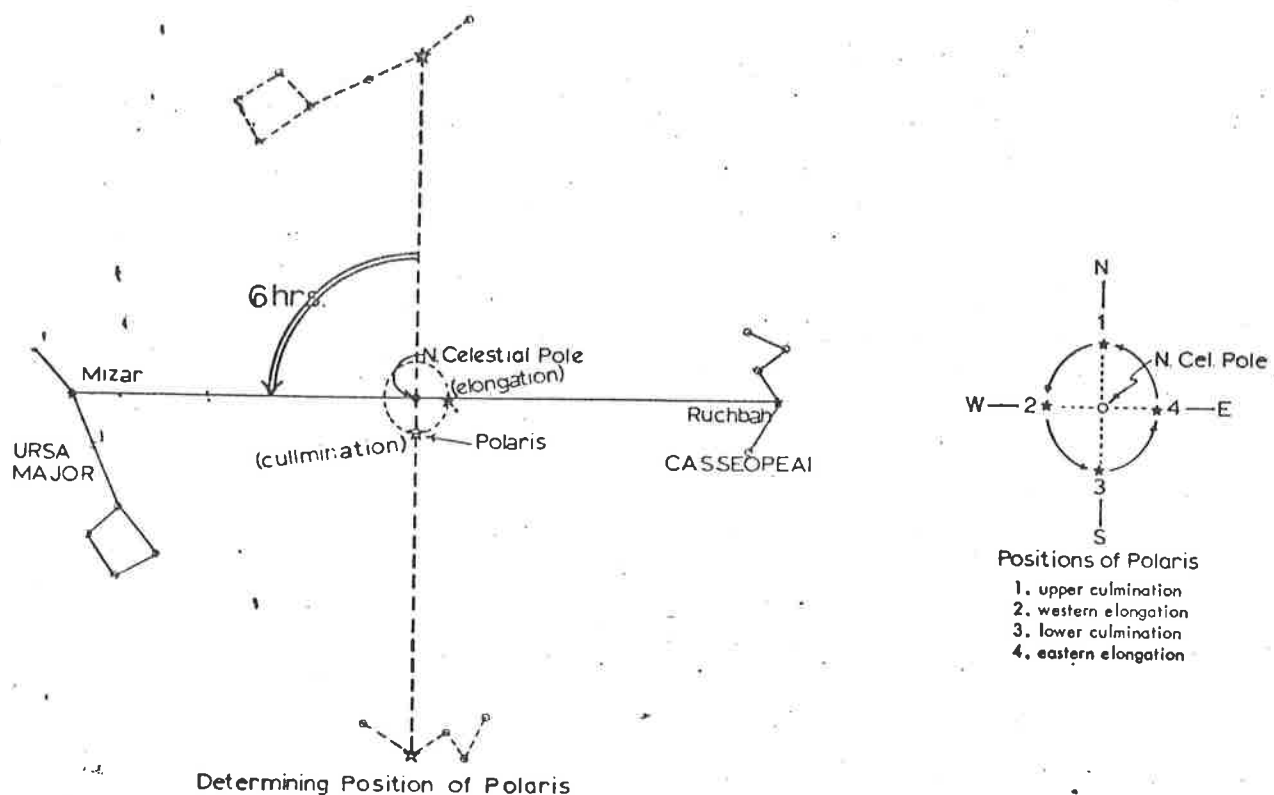

Fig. 15
- 7) PRECISE ORIENTATION: If a more precise alignment of the Polar Axis with the North Celestial Pole is desired for visual observation or especially, for astrophotography, the following procedure should be followed. The imaginary line between Mizar and Ruchbah can be used to determine the position of Polaris with respect to the North Celestial Pole. For accurate setting of the latitude adjustment Polaris should be observed in either eastern or western elongation. For accurate pointing of the Polar Axis in azimuth, Polaris should be observed at upper or lower culmination. Since one revolution of Polaris about the North Celestial Pole occurs approximately every 24 hours, the star is alternately at elongation or culmination every six hours. Reference to Fig. 15 will indicate the relationship of Polaris to the pole with respect to Mizar and Ruchbah. The refractor should be equipped with a crossline eyepiece e.g. the UNITRON 9mm achromatized symmetrical eyepiece with crossline, listed in our accessory sheet. (In 3 and 4" Photo Equatorial Models the 9mm crossline eyepiece is a component of the 2.4" Photo Guidscope and can be transferred to the main telescope for the purpose of orientation.)